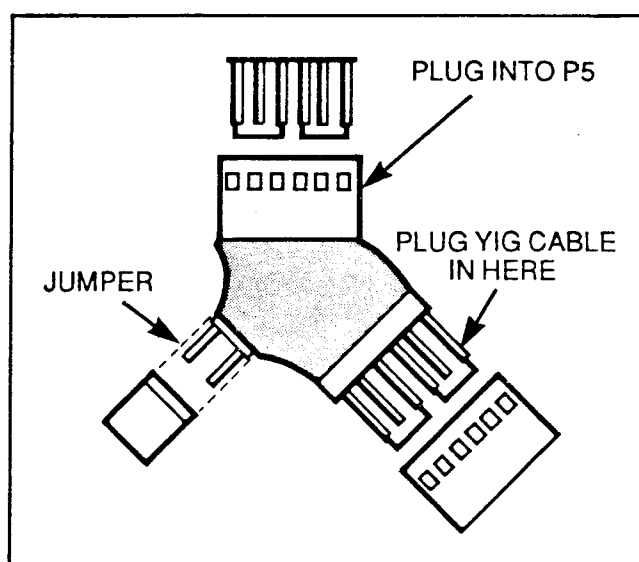

Figure 6-3. T856 Extender Connector
3. With the RF Analyzer power OFF, insert the T856 extender connector between P5 and the YIG cable that plugs into P5 as shown in Figure 6-3.
7. Remove the jumper from the T856 extender connector as shown in Figure 6-3.